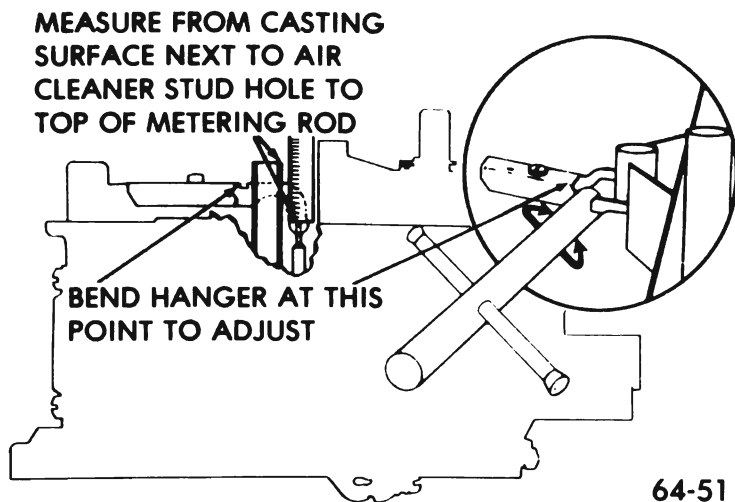

Figure 64-50 - Secondary Metering Rod Adjustment
1. Check secondary metering rod adjustment by measuring from top of each metering rod to top of air horn casting next to air cleaner stud hole. Measurement should be 53/64 in. See Figure 64-50.
2. Adjust, if necessary, by bending metering rod hanger at point shown in Figure 64-50. Make sure *both* rods are correctly adjusted.